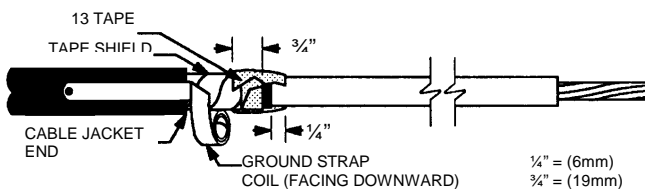

Figure 2
3. Wrap 2 highly stretched half-lapped layers of Scotch™ 13 Semi-Conducting Tape over the ends of the tape shield and semi-con. Start and end taping $\frac{3}{4}$ " (19 mm) onto tape shield leaving a smooth, even leading edge $\frac{1}{4}$ " (6 mm) onto cable insulation (**Figure 2**).
2. Lay the ground strap along cable with extended coil facing downward (away from you) (**Figure 2**). NOTE: Coil should be in contact with cable shielding and as close as possible to the cable jacket end.